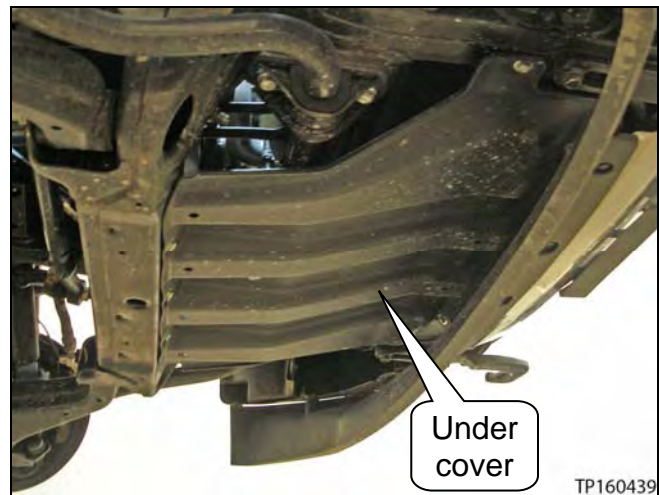

Figure 117
50. Install the engine under cover (see Figure 117).